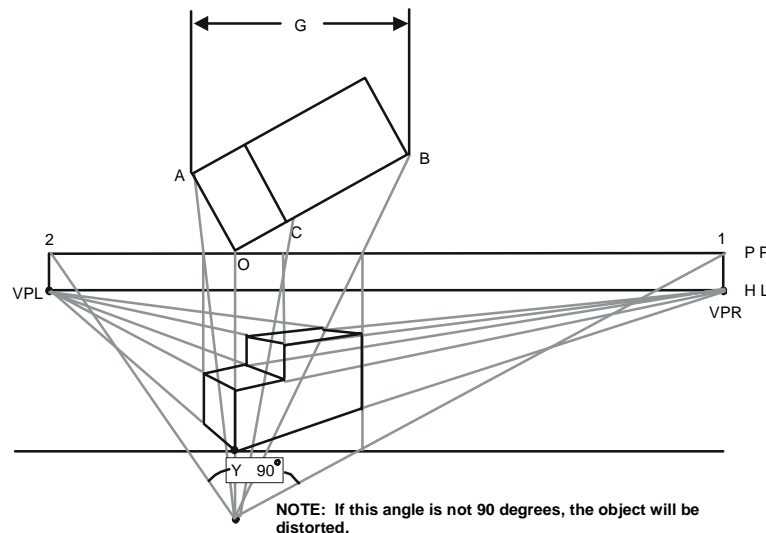

Figure C-9. Measurements taken from the orthographic views.
(9) Draw lines from the corners of the plan view (O, A, B, C) to the station point.
(10) Where these lines intersect the picture plane, project perpendicular lines downward to the ground line.
(11) From point Y, the intersection of line OSP and the ground line, extend visual rays to both vanishing points. These lines define the lower limits (base) of the object.
NOTE: See Figure C-9 for steps (12) through (15).
(12) Taking dimension from the orthographic views (left-hand corner of the figure), measures the vertical distance along line OY. As discussed in one-point perspective, measurements can be placed or taken as long as a view, edge, or point is touching the picture plane. These measurements can only be taken or placed along the edge of the object that touches the picture plane.
(13) After you make the height measurements along line OY, project these points to the vanishing points.
(14) The edges and corners of the object outline are defined where the visual rays intersect the perpendicular projectors.
(15) Darken the object outlines.